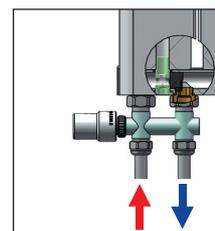

FIG. 4
- E (fig. 4, 5) Collegare le valvole con interasse 50 mm
- E (fig. 4, 5) Connect the valves with 50 mm pipe centres